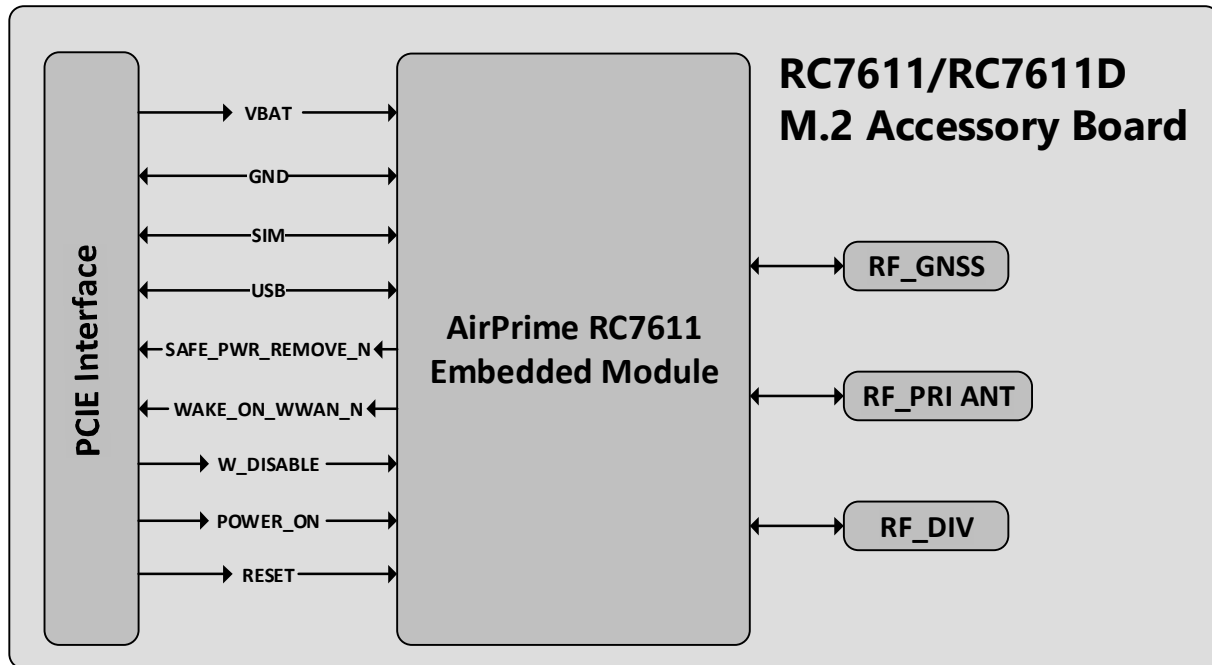

Figure 2-1: RC7611/RC7611D M.2 Accessory Board Architecture Overview
- Use Hirose U.FL connectors (3 mm x 3 mm, low profile; model U.FL #CL331-0471-0-10) to attach antennas to connection points on the module, as shown in Figure 2-1.